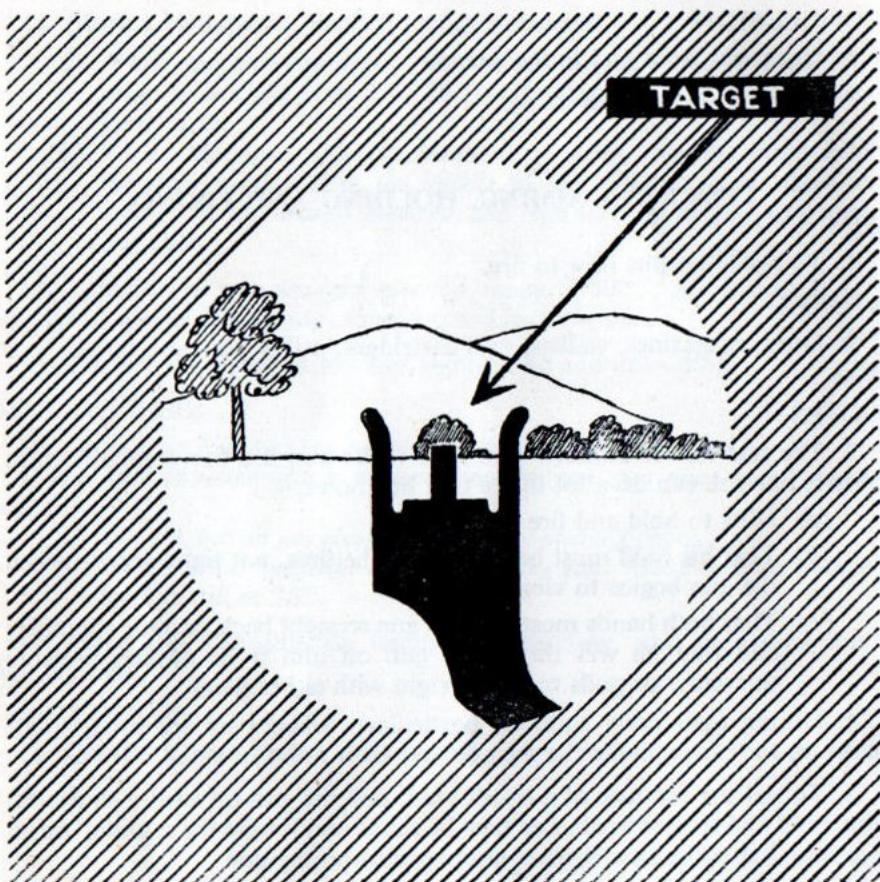

Fig 10.—Correct aim picture for a LMG
10. You aim a LMG in the same way as a rifle; but the aperture of the backsight is larger, and you must be careful to get the tip of the foresight in the middle of it. Fig 10 shows a correct aim picture.